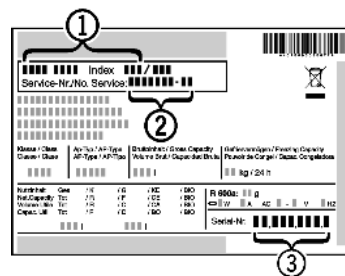

Fig. 25
- ▶ Read off the appliance name *Fig. 25 (1)*, service no. *Fig. 25 (2)* and serial no. *Fig. 25 (3)* from the model plate. The model plate can be found on the inside of the appliance on the left.